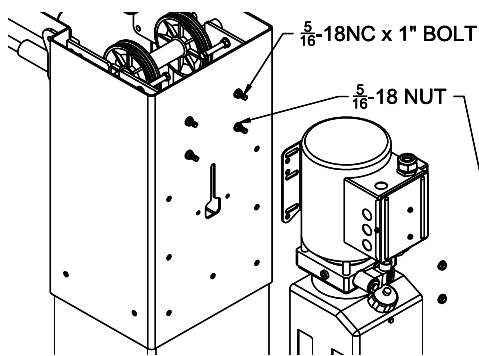

Fig 7 – Power Unit Mounting
20) Mount Power Unit to column extension as shown in **Fig 7**. Assemble the mounting hardware, (4) 5/16"-18 x 1" bolts and (8) 5/16"-18 hex nuts with the bolt installed from the inside of the column and one nut holding it in place at all four locations as shown. Hang the power unit from these studs and secure with remaining (4) 5/16 nuts.